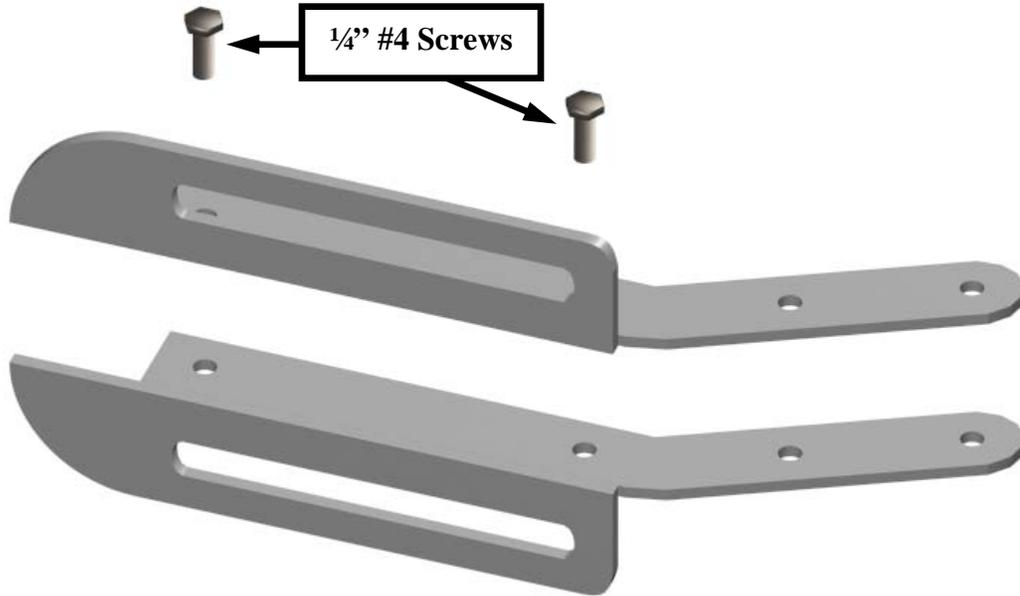

Figure 2
1. Using (2) 1/4" #4 screws, assemble the (2) gripper assembly's as shown in figure 2.